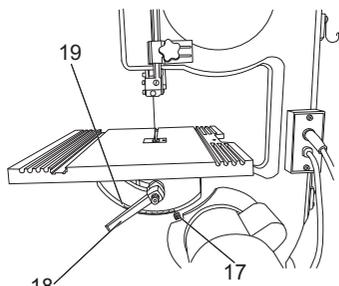

Fig. 17
- > Undo the fixing handle (18). (Fig. 17)
- > Undo the recessed head screw locked on the scale pointer (17) to position the angle scale pointer (17) on the 0° mark on the dial scale (19). (Fig. 17)